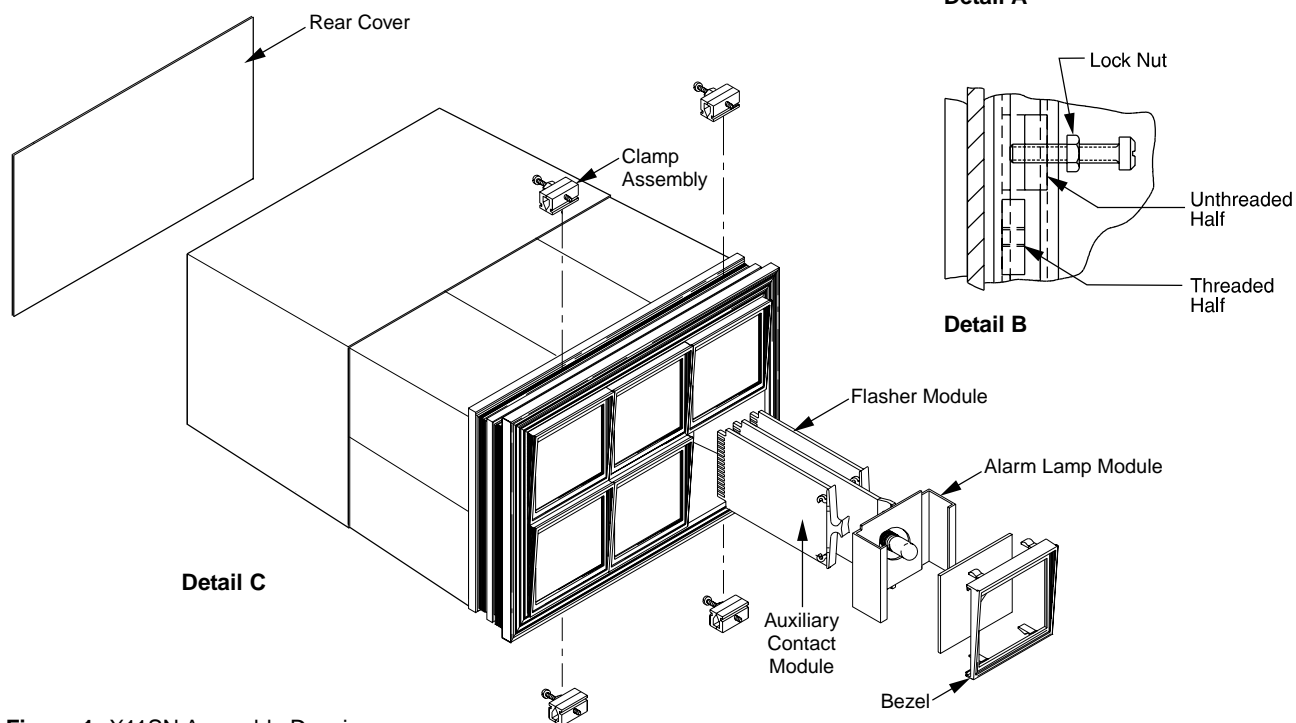

Figure 1: X11SN Assembly Drawing
1. Position the cabinet in the cutout so that the cabinet rests on the front extruded trim, see detail A, Figure 1. Make sure that the front rim is firmly against the panel, both top and bottom.